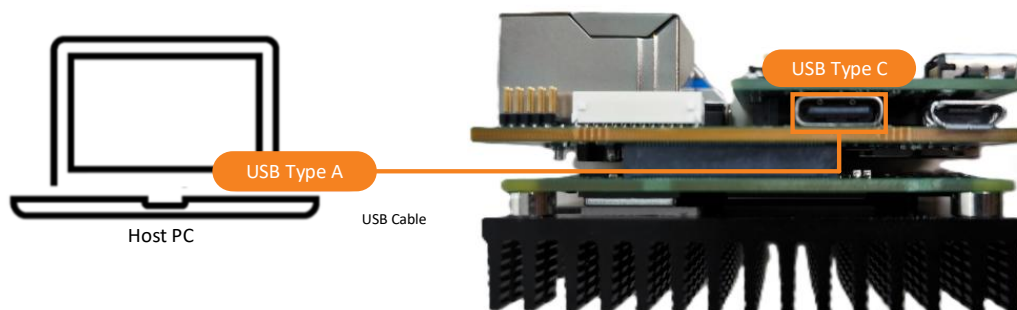

Figure 7.11. Hardware Setup for Flashing RPi CM5 OS
2. Connect the board to the PC using a USB Type A to Type C cable as shown in Figure 7.11.